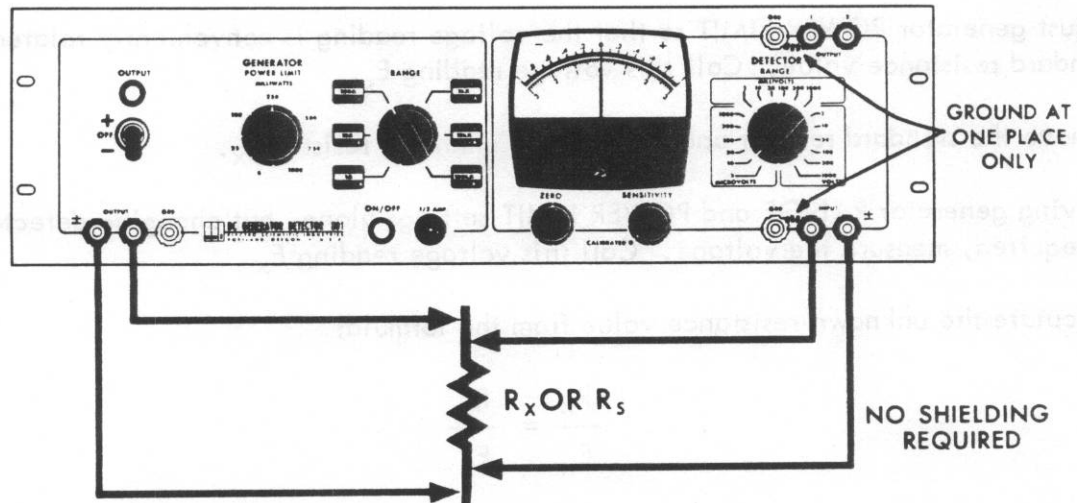

Figure 2.5 Low Resistance Measurement
To measure the approximate value of a very low resistance, such as a switch or relay contact or a piece of wire, use the circuit shown in Figure 2.5.
4. Connect the unknown resistor R_x in the circuit of Figure 2.5.
1. Connect a known standard resistor, having a value R_s not greater than 1000 ohms, in the circuit of Figure 2.5.